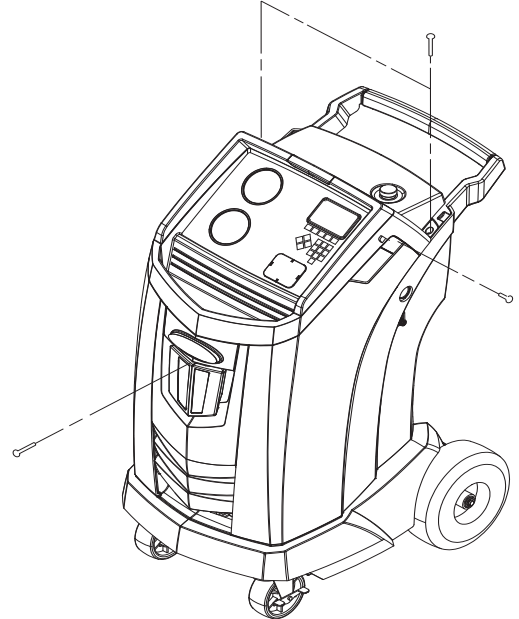

Figure 10
Turn off the machine. Remove the oil bottle. Remove the four screws holding the shroud. See Figure 10.
3. Remove the screws holding the shroud. See Figure 10.